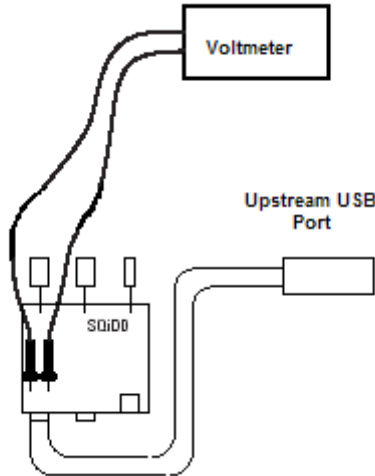

Figure 11. Back-Voltage Test environment
2. Connect the power supply to the DUT and connect the device upstream port to the back-voltage test fixture using a known good USB cable as shown in Figure 11. Measure and record DC voltages on **VBUS**, **D+** and **D-**. Voltages should all be less than or equal to 400 mV. Any voltages greater than 400 mV will be recorded as a failure.